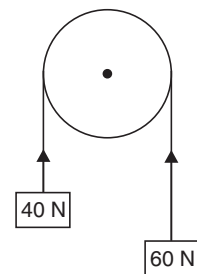

FIGURE 2.16
68. A light string passes over a smooth, weightless pulley and has weights 40 N and 60 N attached to its end as shown in Fig. 2.16. The tension in string will be
69. Refer to Fig. 2.16, the acceleration, with which the weight 60 N descends, is
70. Refer to Fig. 2.16, the pressure on pulley would be